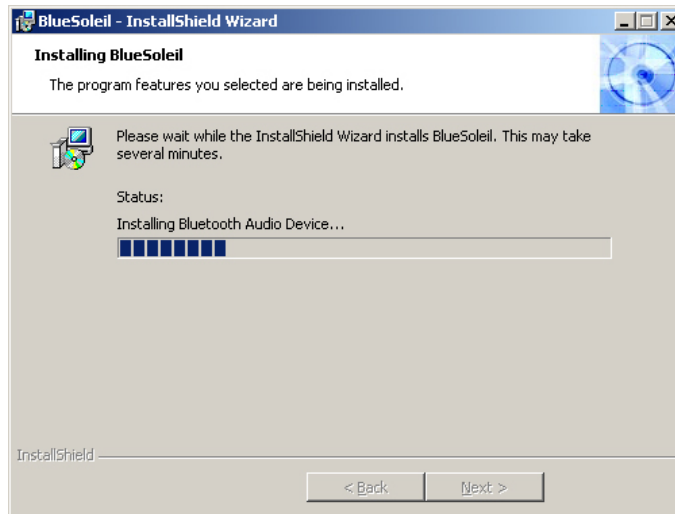

Figure 7-36: Installing BlueSoleil
Step 9: Click **INSTALL** to continue. The Installing BlueSoleil screen appears as the program is installed (**Figure 7-36**).